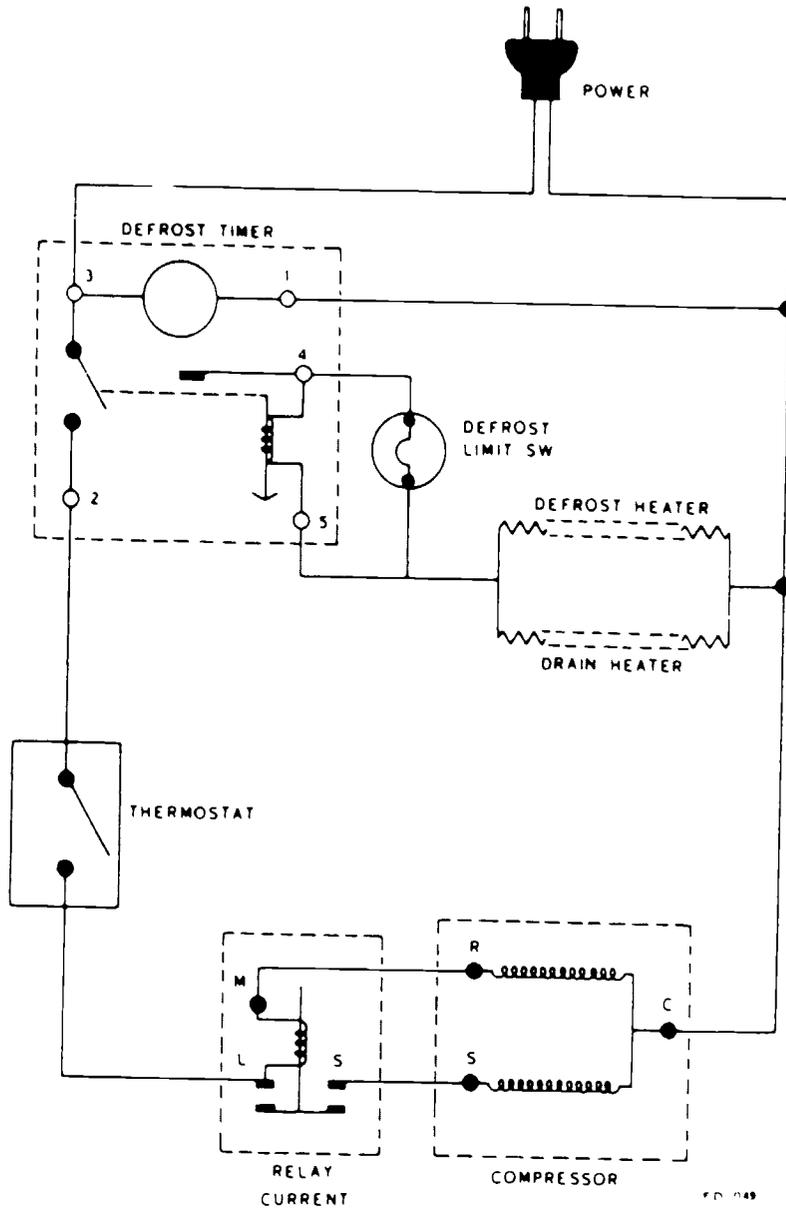

Figure 9. Defrost Timer
**DEFROST SYSTEM WIRING DIAGRAM** There are several types of defrost timers used on domestic refrigerators. The defrost timer is illustrated in figure 9. This timer consists of four major components. They are as follows: an electric motor that runs continuously, a rotor (with a lobe) that provides two defrost cycles for each rotation, a reset solenoid, and two sets of contact points, one set is always open when the other set is closed. During normal operation, as shown in figure 9, electrical current is supplied to the compressor through the closed contact points 2 and 3. When the rotor moves far enough, movable contactor 3 moves up on the lobe and opens contact points 2 and 3 and closes contact points 3 and 4. Current is now supplied to both the defrost and drain heaters. When the evaporator warms up to 37°, the defrost thermostat (defrost limit switch) opens and stops (terminates) the defrost cycle by energizing the reset solenoid, which opens terminals 3 - 1 4 and closes 3 and 2 to start the compressor.
The wiring diagram in figure 9 is for the electrical defrost system. This same type of timer can also be used with hot gas defrost systems by substituting a solenoid valve for the defrost timer